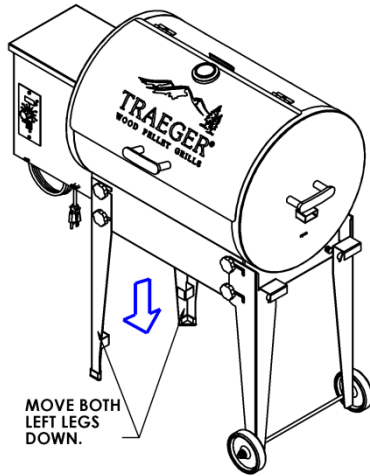

Figure 3-3
3. Lift up the left side of the grill by the handle on the hopper. Pull the front leg down until it stops (See figure 3-3) then pull the front leg to the left until it stops. (See figure 3-4) Then pivot the front leg until the leg comes into contact with the bottom of the skirt. Then tighten the bolts so they do not fall out. (See figure 3-5) Repeat the process on the back left leg. Set the grill down on the ground onto the hopper edge.